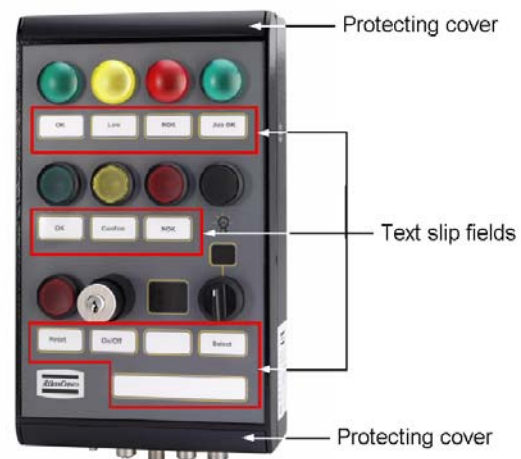

Figure 41: Text slip fields on the front panel
5. Remove the upper and lower protective cover from the Operator panel device (Figure 41). Loose the four screws and remove the lid.
8. The text slips should now be visible on the front panel (Figure 41).